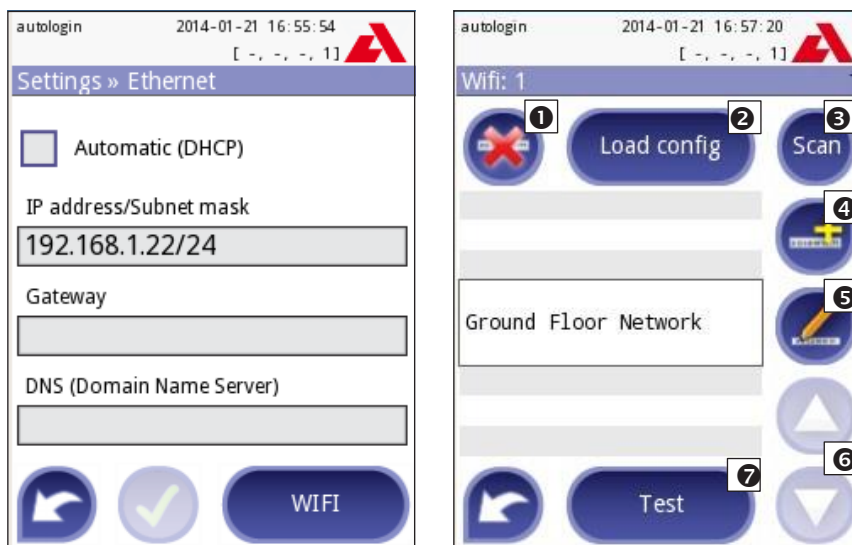

Figure 2: The Ethernet and the Wifi screens in the new version of the software.
2. Tap the Scan button. The system displays all the networks that are within range, listed by descending signal strength. Use the **Up** and **Down** arrow buttons (numbered 6 in Figure 2) to position the cursor over the network that you would like to connect to, and tap the **Add element** button (numbered 4 in Figure 2). On the keyboard screen that is displayed, enter the Password for the selected network, and tap **OK**.
3. Tap the **Scan** button once again to toggle it off. Use the **Up** and **Down** arrow buttons (numbered 6 in Figure 2) to position the cursor over the network that you are connecting to, and tap the **Test** button. A status text will be displayed below the name of the network. When the status text reads **COMPLETE**, the device is connected to the selected wireless network.
2. Tap the **Add element** button (numbered 4 in Figure 2). On the keyboard screen that is displayed, enter the ESSID (the name), and then the Password for the new wireless network.
3. Use the **Up** and **Down** arrow buttons (numbered 6 in Figure 2) to position the cursor over the network that you are connecting to, and tap the **Test** button (numbered 7 in Figure 2). A status text will be displayed below the name of the network. When the status text reads **COMPLETE**, the device is connected to the selected wireless network.
4. Tap the **Load config** button (numbered 2 in Figure 2) to load the zipped configuration files that you set up in step 1 above from the USB flash drive. The
2. Use the **Up** and **Down** arrow buttons (numbered 6 in Figure 2) to position the cursor over the network that you would like to modify or delete.
3. Tap the **Delete** or the **Edit** button (numbered 1 and 5, respectively, in Figure 2), as necessary. Follow the instructions and messages that are displayed.